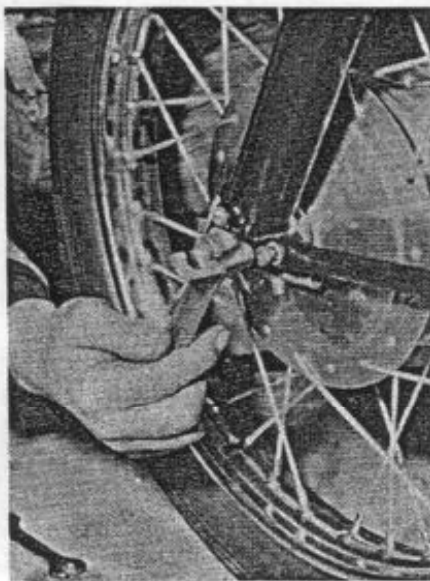

fig. 10
- d. Make sure that front fender bolts are tightened **after** having tightened the bolts for the front wheel (Fig. 10).